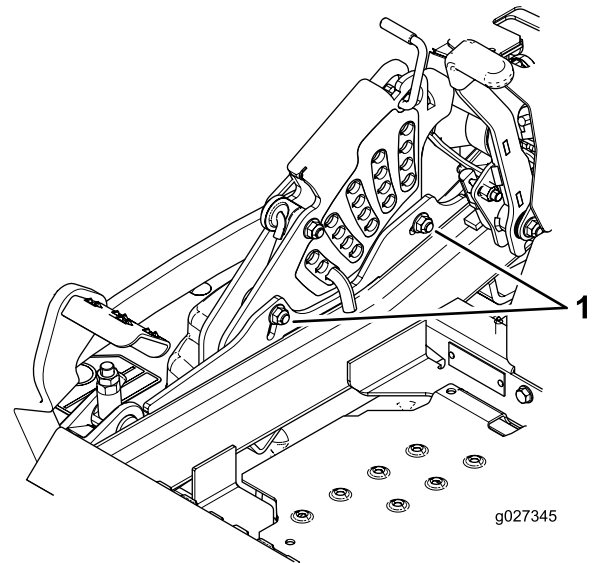

Figure 118
11. To adjust the single-point system, loosen the 2 bolts at the bottom of the height-of-cut plate (Figure 118).
13. Tighten the 2 bolts at the bottom of the height-of-cut plate (Figure 118).